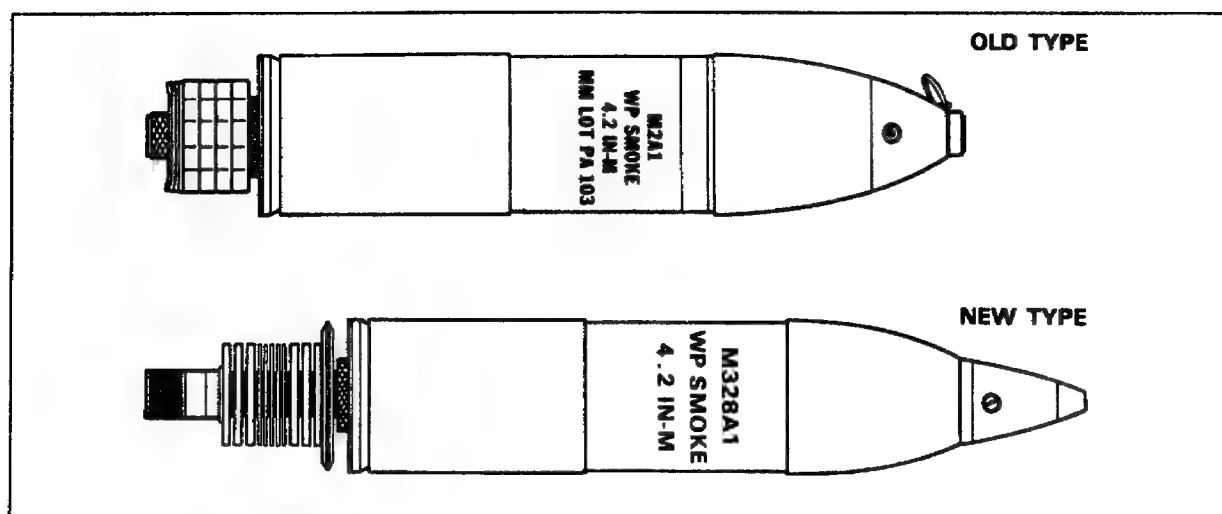

Figure 33. 4.2-Inch Smoke-White Phosphorous Mortar Cartridges.
**4.2-Inch Smoke-White Phosphorous Mortar Ammunition.** The 4.2-inch smoke-white phosphorous mortar cartridge is used as an incendiary device against personnel and material and to produce a screening smoke. See Figure 33. The two cartridges shown differ only in the tail assembly, the fuze, and the color code. The old cartridge may be gray with yellow markings and a yellow band. The new cartridge, an improved model, is always painted in the new color code, light-green with light-red markings and a yellow band.